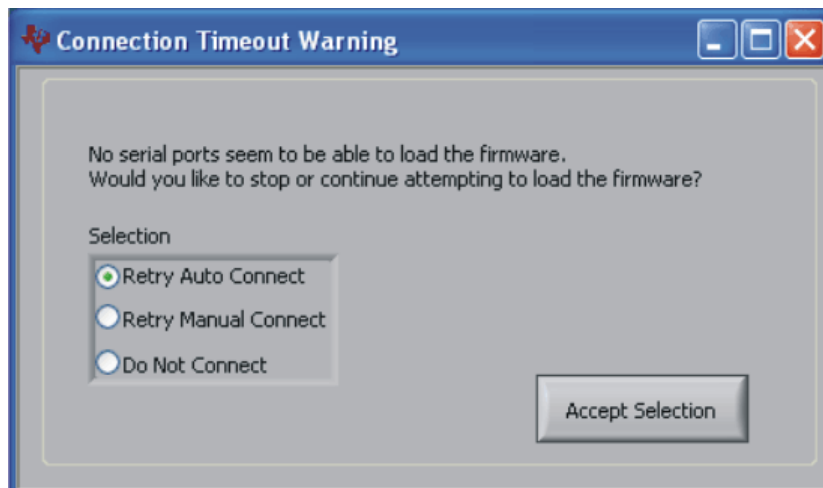

Figure 11. Connection Timeout
- Step 4. If the plug-in cannot connect to the EVM, you will see a window as shown in Figure 11. This message may indicate that the firmware is not loaded on the MMB3. You may select *Retry Auto Connect*; if that action fails, select *Retry Manual Connect* and specify the COM port to be used.